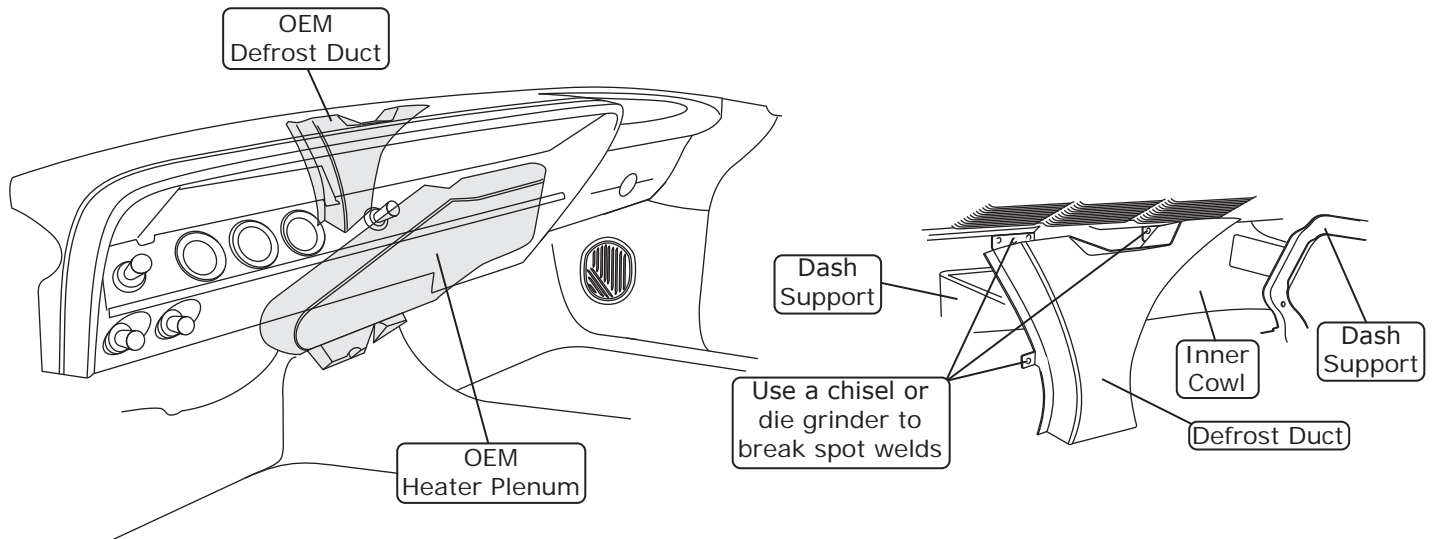

Figure 3
8. Remove the OEM defrost duct assembly (discard) (See Figure 3, below).
9. Remove the (3) spot welds on the defrost duct using a chisel or die grinder (See Figure 3, below).